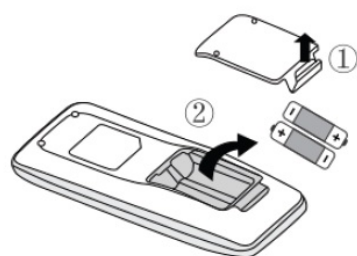

Fig 1
The Auto Clean function will not work under excessively hot or cold outdoor temperatures. If the room is dusty, clean it once a month; if not, clean it once every three months. After the Auto Clean function is turned on, you can leave the room. When Auto Clean is finished, the unit will enter standby status. This function is only available for some models including the LIVO GEN3 series. Replacing batteries in the remote controller Fig 1 Fig 2
1. Lift the cover along the direction of the arrow (as shown in Fig 1).
2. Take out the original batteries (as shown in Fig 1).